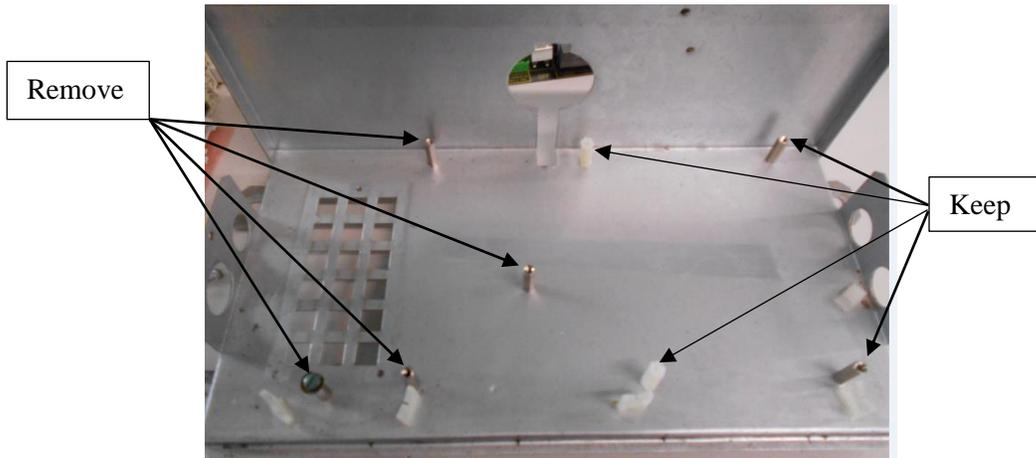
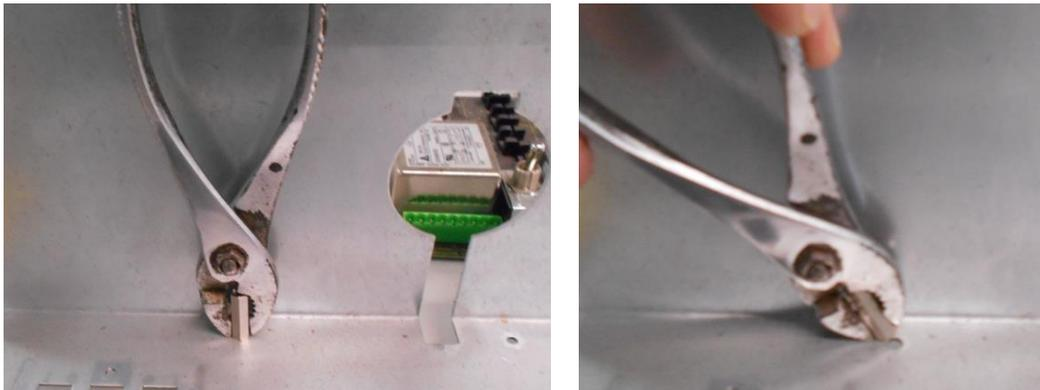

Figure 11 - Standoff Removal
Figure 12 - Snapping Off Standoff
- Remove the standoffs indicated in *Figure 11 - Standoff Removal* leaving the 2 standoffs on the far right and the 2 nylon standoffs in the center. Standoffs can be removed using a pair of pliers and snapping the standoff. See *Figure 12 - Snapping Off Standoff*.